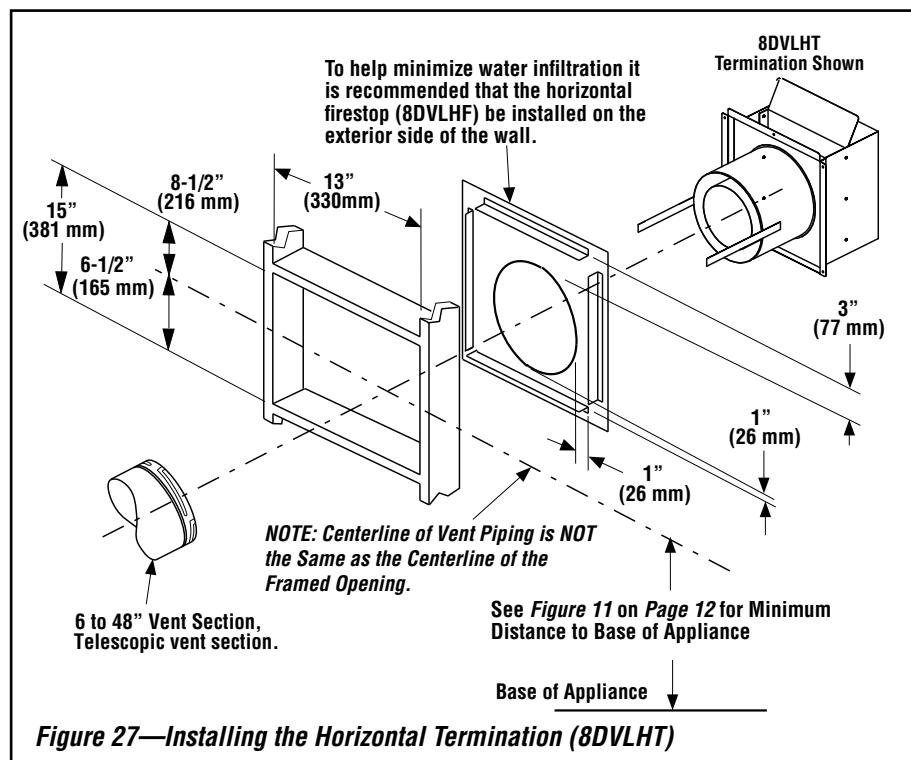

Figure 27—Installing the Horizontal Termination (8DVLHT)
K. Install horizontal firestop at exterior wall—When using the horizontal termination, install 8DVLHF horizontal firestop over the opening at the exterior side of the framing, long side up, with the 3" spacer clearance at the top as shown in **Figure 27**, and nail into place.